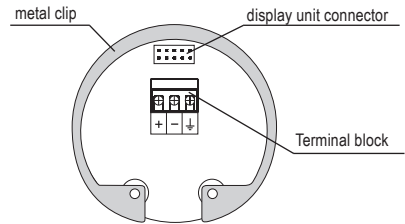

Fig. 23: Inside view of screw terminals of the level meter with current output GRLM-70 _ _ _ - I
5. Connect the cable to the screw terminals according to the diagram in Fig. 23 or 25. Firmly tighten the terminals and the cable outlet. Tightening torque see. Technical parameters p. 36.
6. If the level meter with Modbus is involved as a terminal for RS-485, we recommend (to avoid reflections on the line) to connect 120Ω termination resistor. This is done by moving a small lever of the switch marked 120Ω to the ON position. On the level meters connected to the line RS-485 as an intermediate device, the termination resistors are not connected (switch remains off) in Fig 23.
In the event of strong ambient electromagnetic interference, paralleling of conductors with power distribution, or for distribution to distances over 30 m, we recommend grounding the level meter (see above) and using a shielded cable. Ground the shielding of the cable on the side of the power supply, or the shielding is possible to connect only on inside pin of the level meter marked \oplus see fig. 23 and 25 (the shielding of the cable is always connected in a single location).